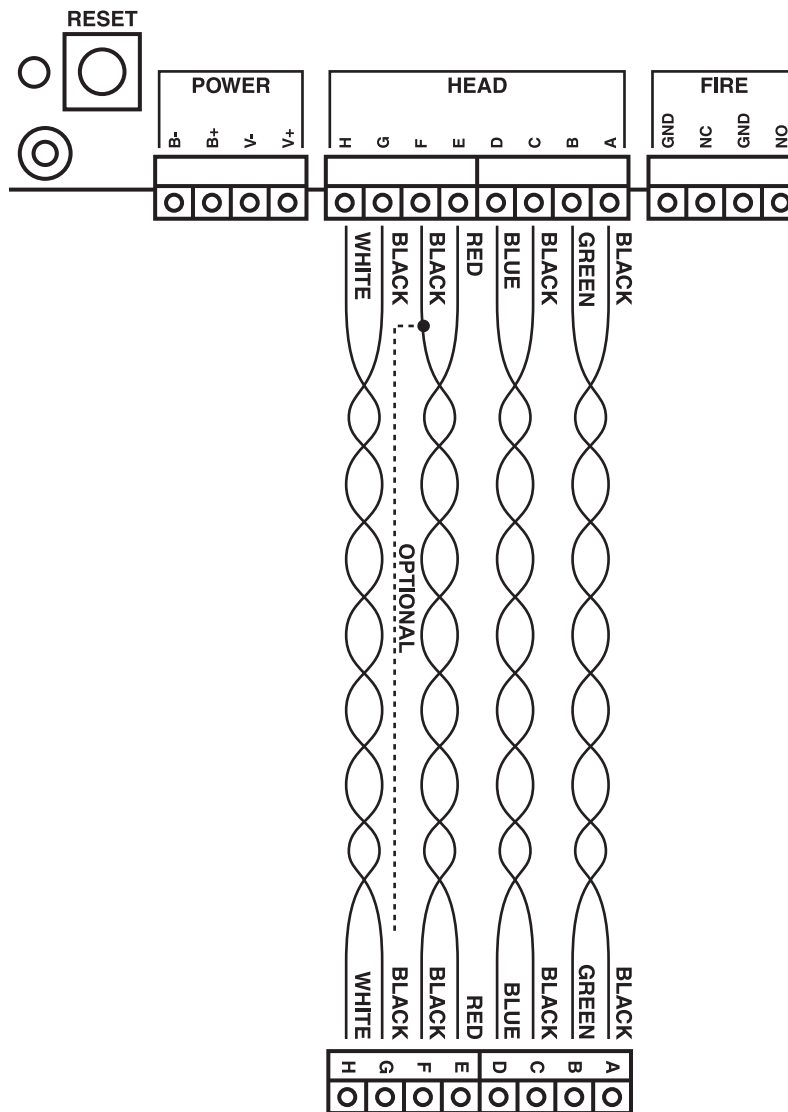

Figure 3-1. Connecting the control unit to the head unit.
3. Wire the head unit as shown in Figure 3-1. The actual colors are not important, but make sure you connect each pair of wires as shown in the diagram.